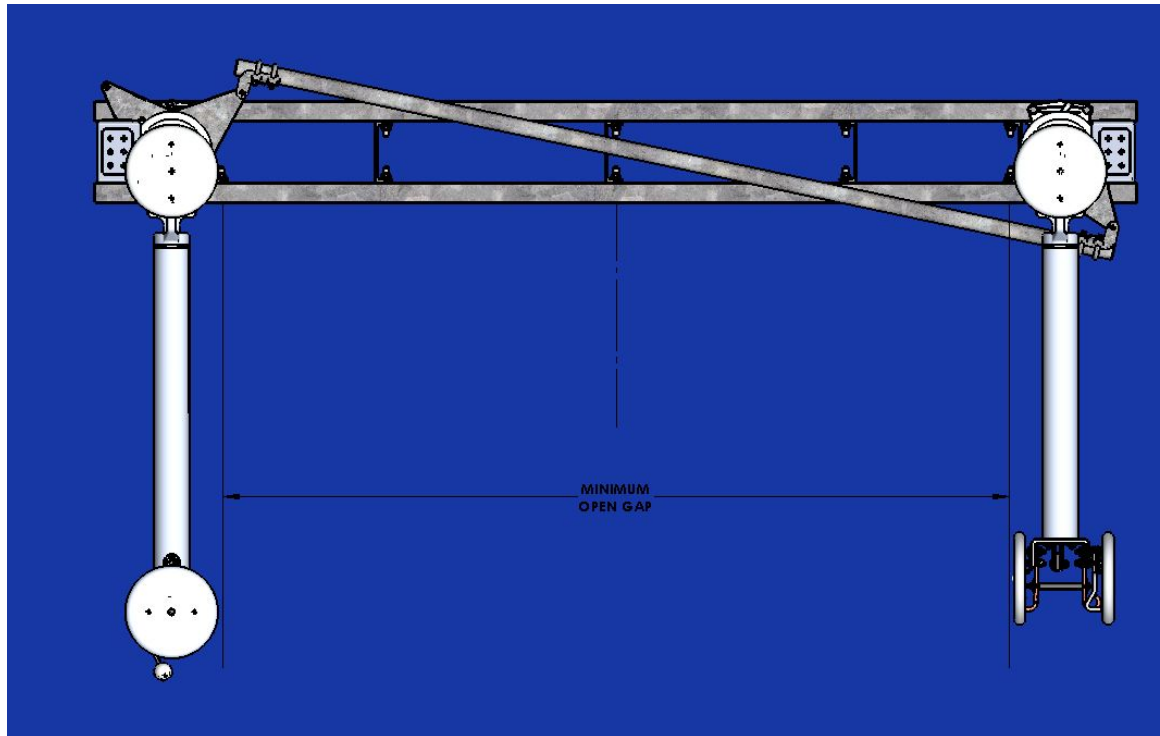

Figure 21: Switch – Fully Open Position (Top View)
4.2. Open the disconnect switch with the operator. The switch is in the fully open position when both blades are approximately 90° to the switch base. Refer to **Figure 21**.